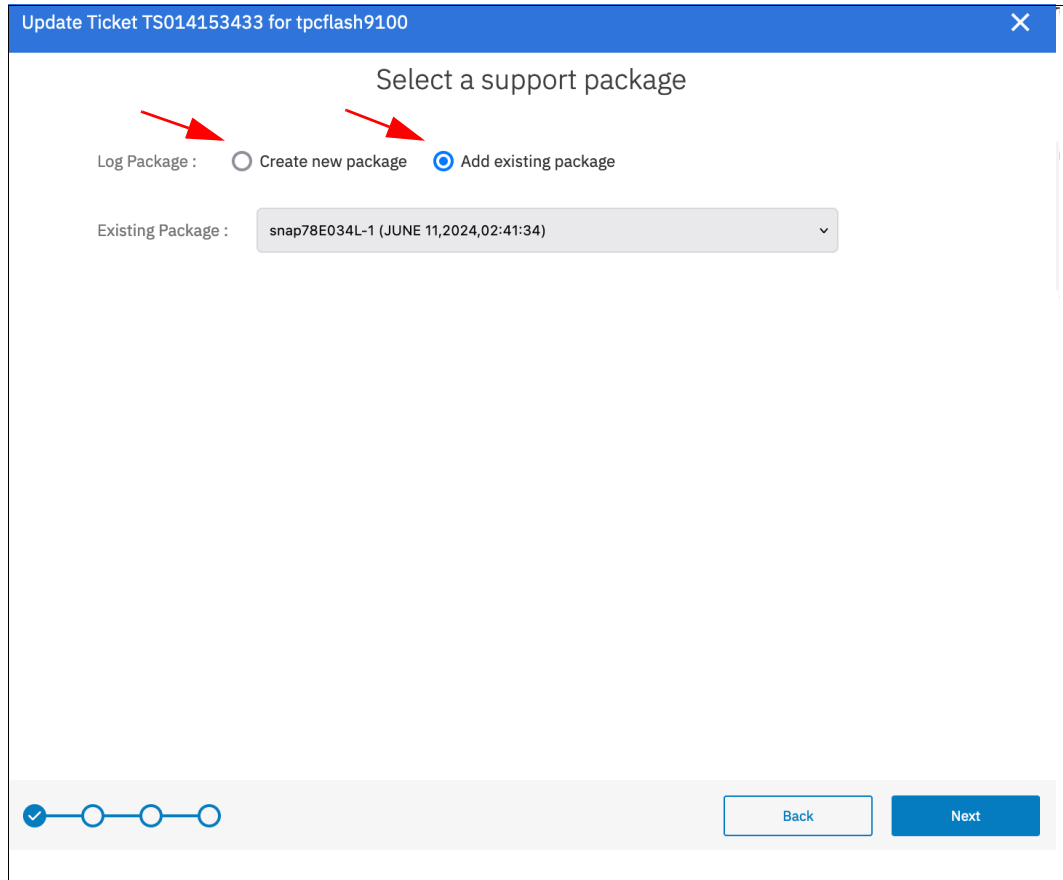

Figure 5-19 Adding a log package to the ticket
2. To quickly add logs to a ticket without having to browse to the system GUI or use IBM ECuRep, click **Get Support** and **Add Log Package to Ticket**. A window opens that guides you through the process, as shown in Figure 5-19 on page 83. After entering the support ticket number, you can select which type of log package you want and add a note to the ticket with the logs.